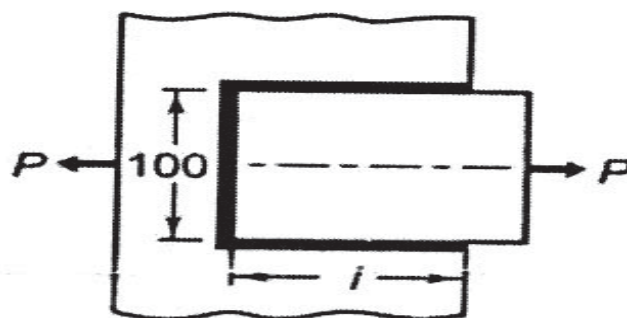

Fig.4
- b)** A steel plate, 100mm wide and 10 mm thick, is joined with another steel plate by means of single transverse and double parallel fillet welds, as shown in Fig.4. The strength of the welded joint should be equal to the strength of the plates to be joined. The permissible tensile and shear stresses for the weld material and the plates are 70 and 50 N/mm² respectively. Find the length of each parallel fillet weld. Assume the tensile force acting on the plates as static. [12]